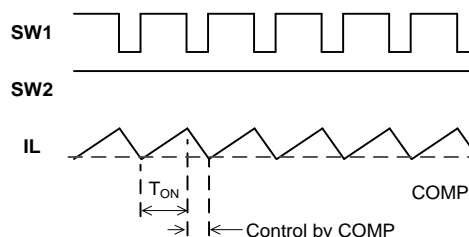

Figure 5: Buck Waveform
COMP voltage (V_{COMP}), SWB turns off, and SWA turns on. SWA turns on for a fixed on-time period before turning off. Then SWB turns on again, and the operation repeats. The COMP signal is the error amplifier (EA) output from the V_{OUT} feedback and internal FB reference voltage (see Figure 5).